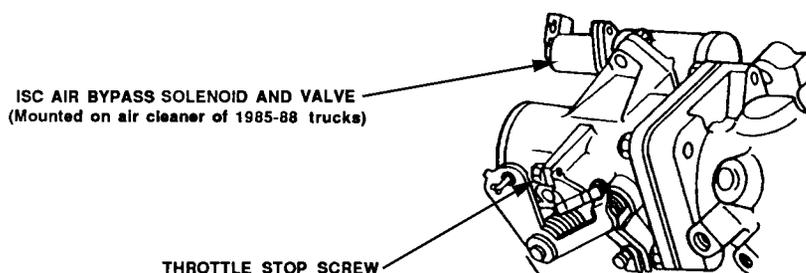

Figure F050-9
4. With the transmission in neutral, turn the throttle stop screw (Figure F050-9) to set the idle speed. Adjust to:
6. Turn the throttle stop screw (Figure F050-9 on page F158), to set idle speed to the specification listed below: